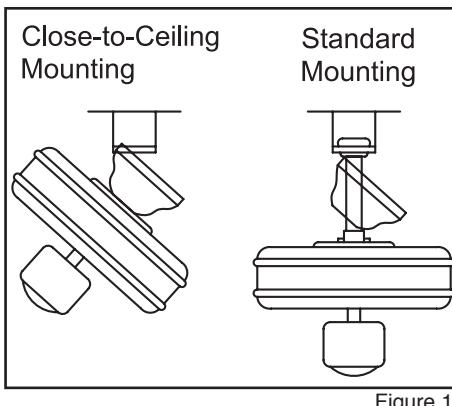

Figure 11
- Carefully lift the assembly up to the ceiling mounting plate and hang the fan on the hook provided by utilizing one of the holes at the outer rim of the ceiling canopy (Figure 11). If using standard
mounting, seat the hanger ball in the mounting plate socket. Make sure the tab on the mounting plate socket is properly seated in the groove in the hanger ball (Figure 11).
THE HOOK AS SHOWN IN FIGURE 11 IS ONLY TO BALANCE FAN WHILE ATTACHING WIRING. FAILURE TO HANG AS SHOWN IN FIGURE 11 MAY RESULT IN HOOK BREAKING, CAUSING THE FAN TO FALL. HOOK MUST PASS FROM INSIDE TO OUTSIDE OF CANOPY.